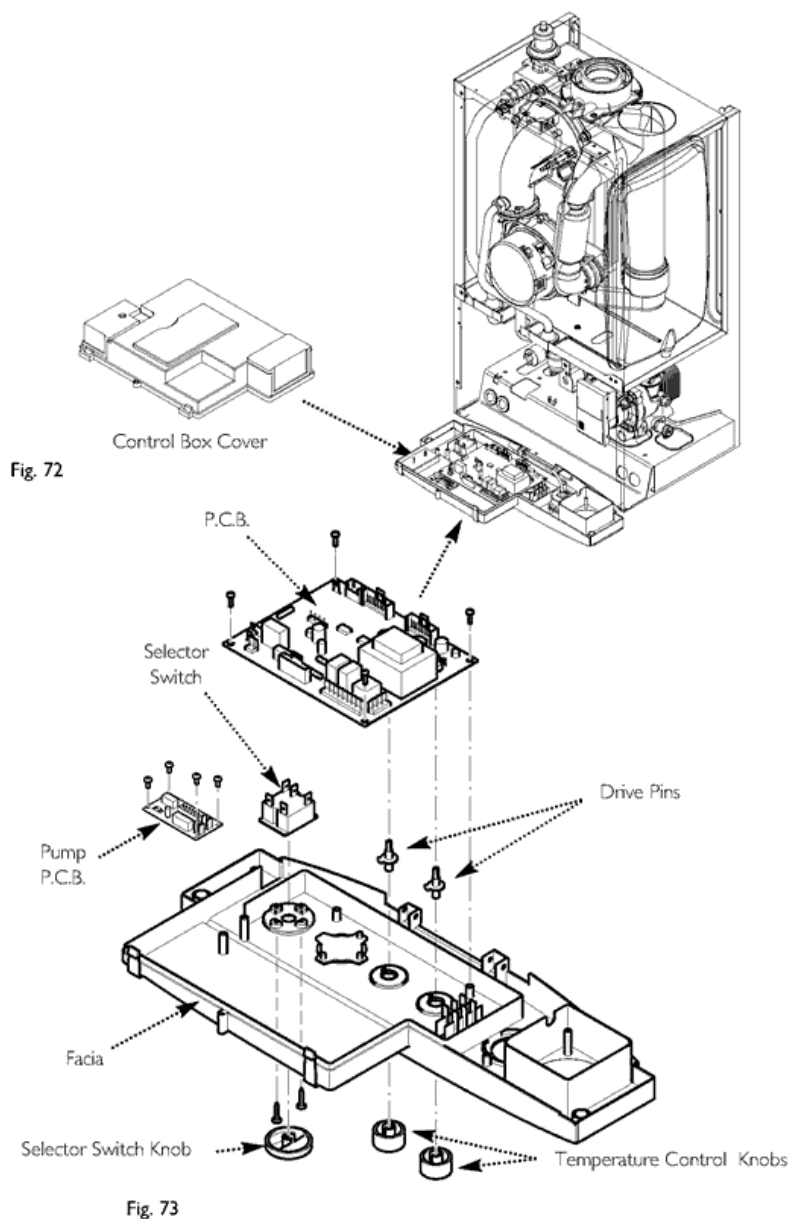

Fig. 72 & Fig. 73
13.20 P.C.B. (Figs. 72 & 73)
13.21 Pump P.C.B. (Figs. 72 & 73)
13.22 Selector Switch (Figs. 72 & 73)